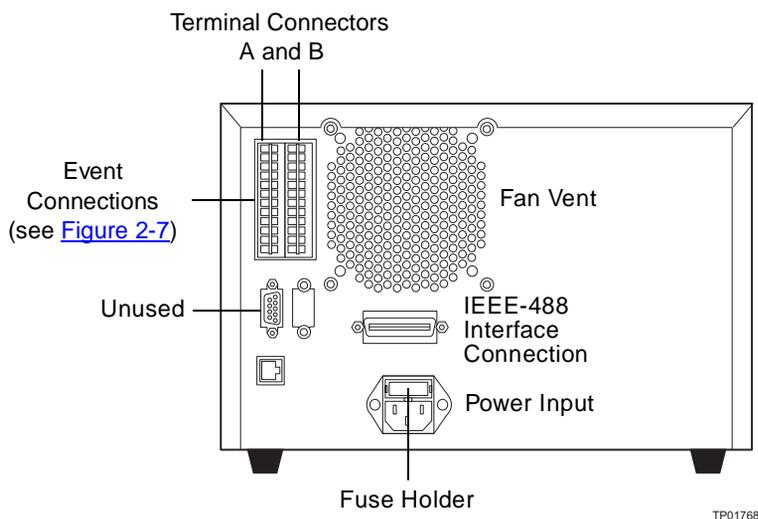

Figure 2-5 2488 Detector Rear Panel Electrical Connections
1. Plug the receptacle end of the power cord into the ac input connector on the rear panel of the detector (Figure 2-5).
The 2488 Detector connects to other system components through rear panel electrical connections (Figure 2-5).
- **IEEE-488 interface bus** – The IEEE-488 bus connection (Figure 2-5) allows remote control and direct data acquisition from MassLynx workstations.
The rear panel of the 2488 Detector (Figure 2-5) provides an IEEE-488 communications port for operating the detector with external devices. The signal connections you need to make to your 2488 Detector depend on the types of instruments that make up your HPLC system.